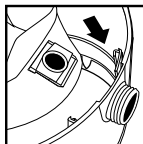

FIGURE 24
34. Slide the inlet deflector with the filter bag attached into the deflector guide. **FIGURE 24**